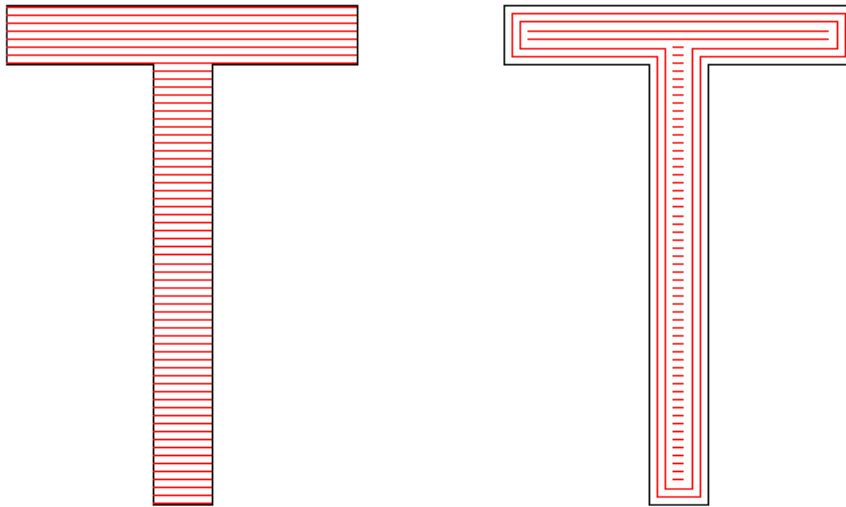

Figure 3-11 NumLoops
**NumLoops:** The times of Ring-like hatch before the aclinicing hatch (Figure 3-11).